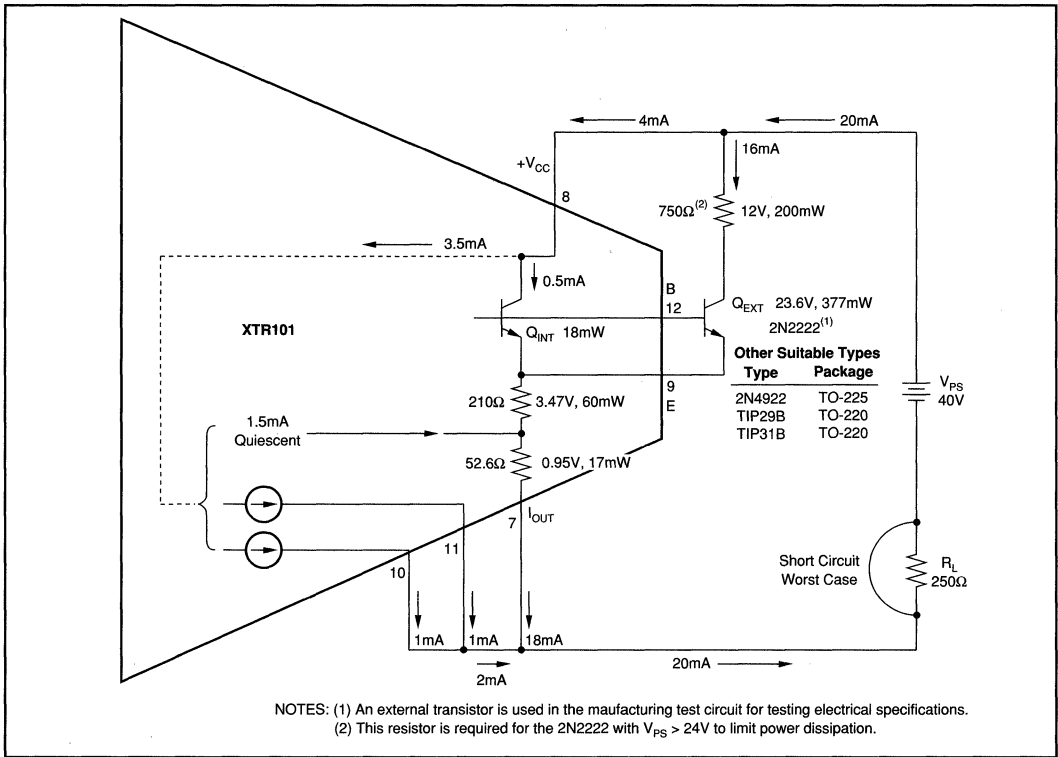

FIGURE 2. Power Calculation of XTR101 with External Transistor.
The optional external transistor, when used, is connected in parallel with the XTR101's internal transistor. The purpose is to increase accuracy by reducing heat change inside the XTR101 package as the output current spans from 4-20mA. Under normal operating conditions, the internal transistor is never completely turned off as shown in Figure 2. This maintains frequency stability with varying external transistor characteristics and wiring capacitance. The actual "current sharing" between internal and external transistors is dependent on two factors: (1) relative geometry of emitter areas and (2) relative package dissipation (case size and thermal conductivity). For best results, the external device should have a larger base-emitter area and smaller package. It will, upon turn on, take about $[0.95 (I_0 - 3.3\text{mA})]\text{mA}$. However, it will heat faster and take a greater share after a few seconds.
tions shown in Figure 2. Thus the 2N2222 will safely operate below its 400mW rating at the upper temperature of $+85^\circ\text{C}$. Heat sinking the 2N2222 will result in greatly reduced accuracy improvement and is not recommended.